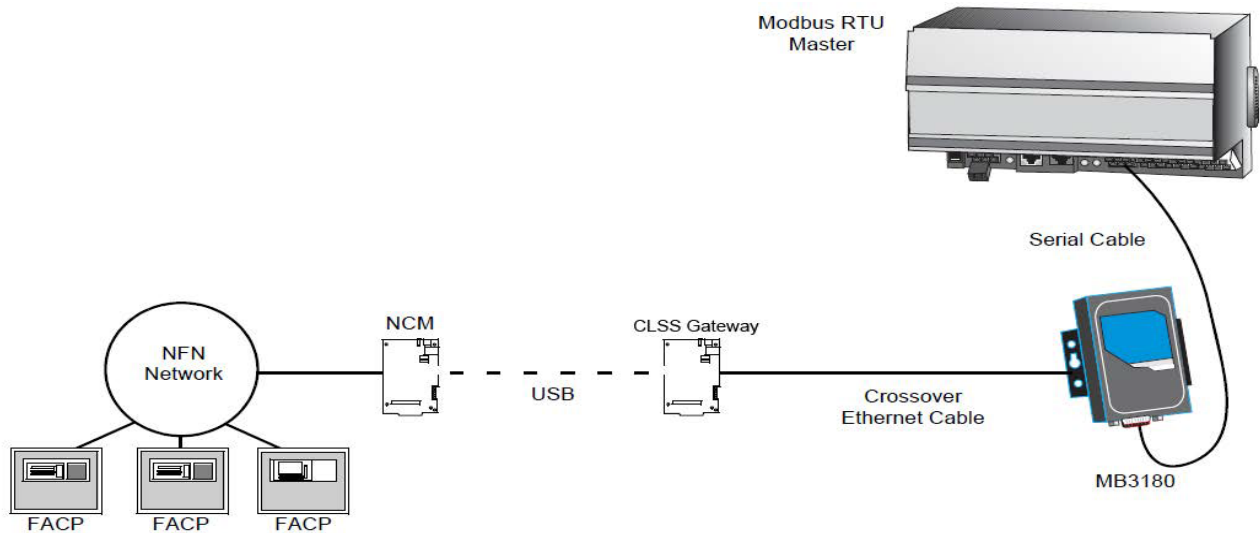
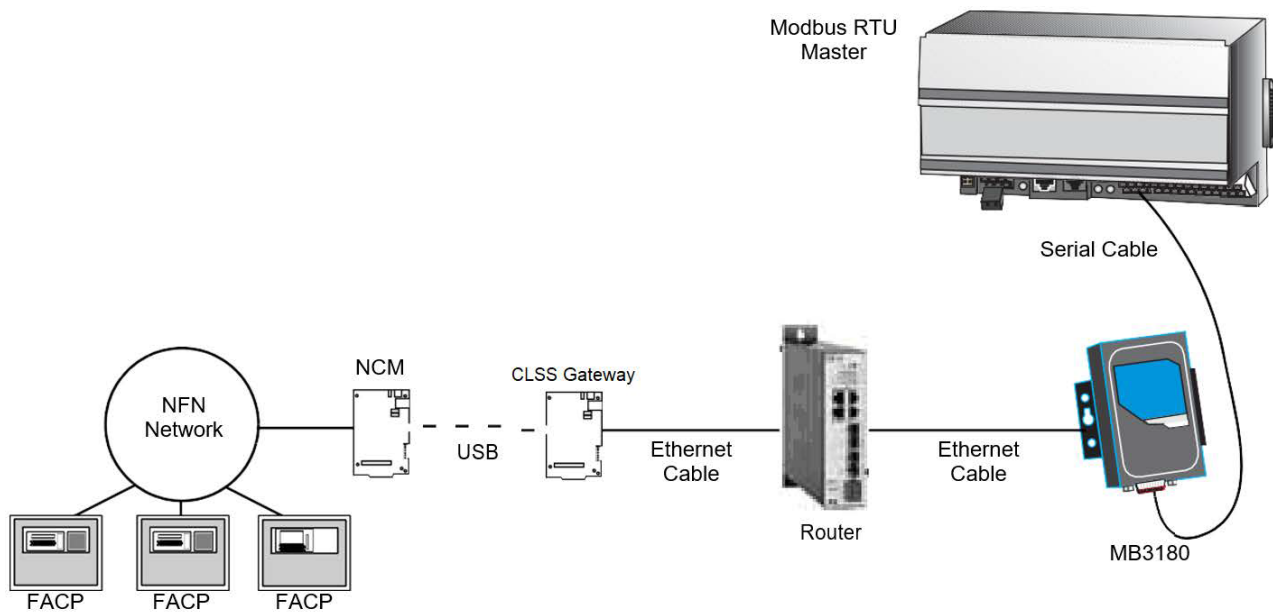

Figure 7-7: Connection Through Crossover Ethernet Cable
Figure 7-8: Connection Through a Router
- Figure 7-7: Connection Through Crossover Ethernet Cable and Figure 7-8: Connection Through a Router show possible configurations for connecting the CLSS Gateway to the Moxa interface.